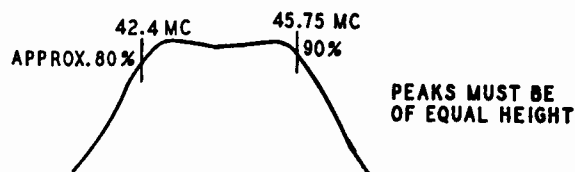

Fig. 2—2nd Pix I-F Response
1. Connect sweep output to 2nd I-F grid (pin #1-V4), oscilloscope to Test Point "C". Set output of sweeper so that some output is indicated in oscilloscope. Adjust 2nd PIF transformer (T-201) primary (bottom) and secondary (top) simultaneously for maximum output and symmetry. Readjust sweeper output for 4.0V P-P on oscilloscope. Touch-up to give the waveform shown in figure 2.